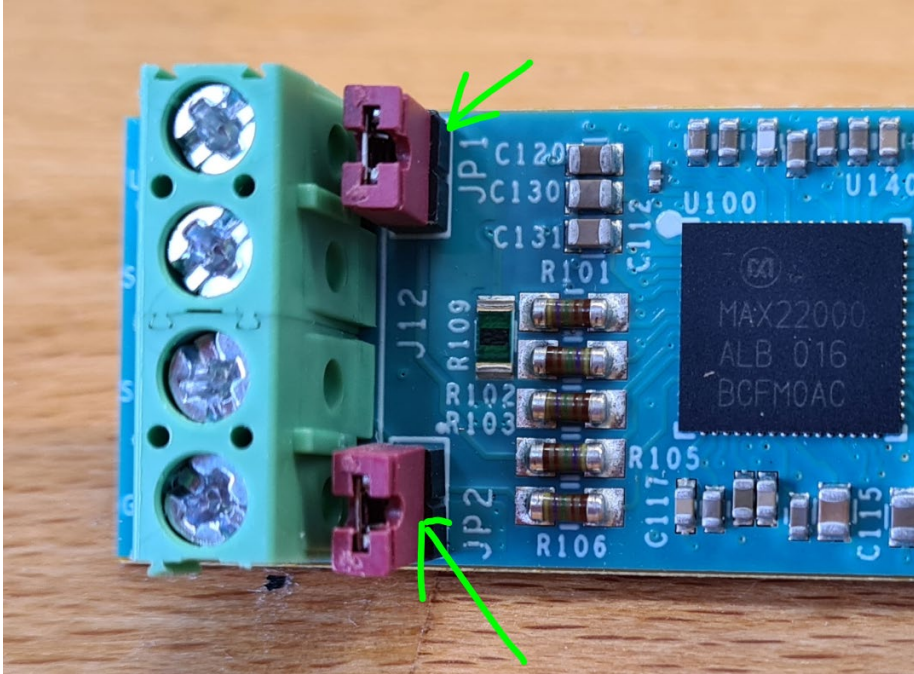

Figure 6. JP1 and JP2 closed.
11. Close the jumpers JP1 and JP2 (**Figure 6**), making sure nothing else is connected that could affect the measurement, and click **OK**.